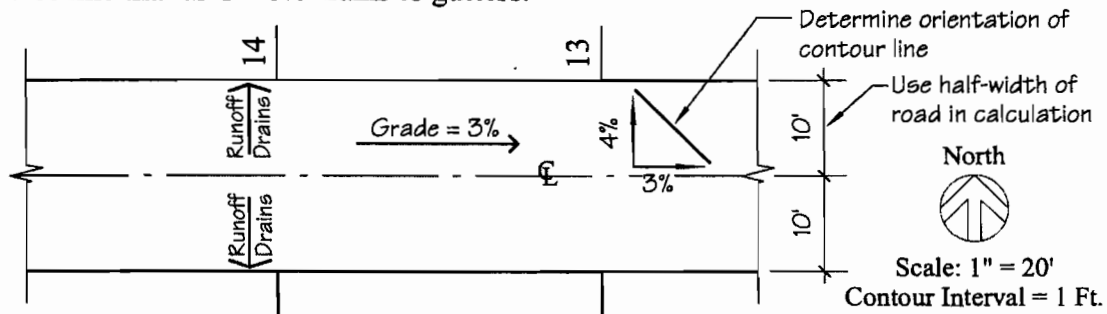

Figure 4-9. Grading Concrete Road with 4% Cross Slope About Its Crown
IMPORTANT POINT: When designing cross slopes for all bilaterally symmetrical site features, such as a road or parking lot, use the half-width for the calculation rather than the overall width. A road, for example, could be considered to be two plane surfaces, such as walks, joined along their long-axis edge, that slope in opposite directions. Review Figure 4-9 which shows a road that has a 4% cross slope about its crown. Assume that all runoff drains to gutters.
Note in Figure 4-9 that the longitudinal grade is given, so it need not be calculated.
Step 1. Determine the orientation contours will assume on the road surface as shown in Figure 4-9.